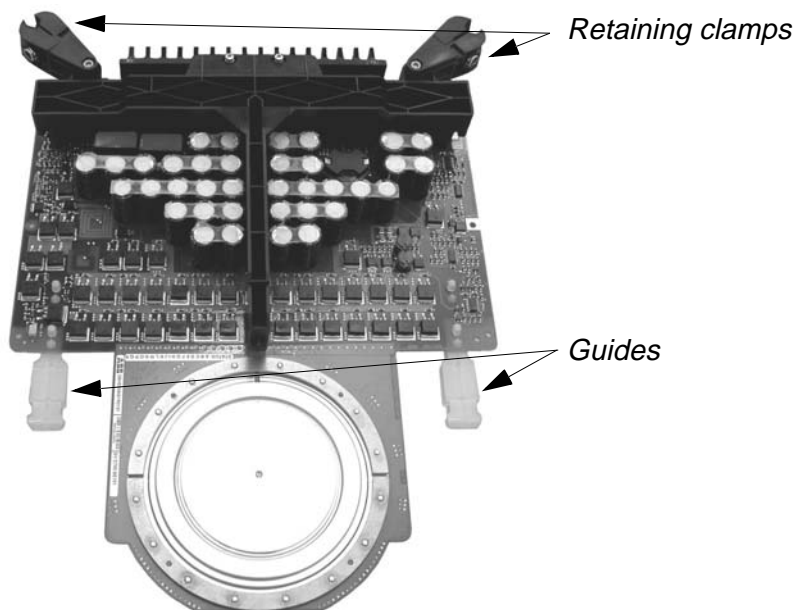

Figure 8-23 IGCT
- 7 In case the new IGCT is not fitted with retaining clamps and guides (see *Figure 8-23*) remove these parts from the faulty IGCT and mount them on the new IGCT.